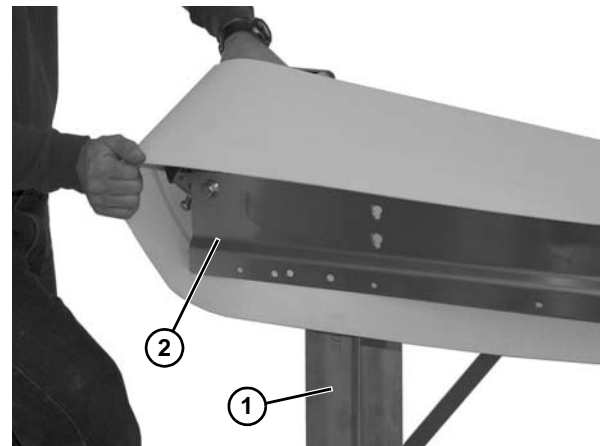

Figure 59
20. Remove the belt from under the stand (Figure 59, item 1) and from the conveyor (Figure 59, item 2) on both ends.